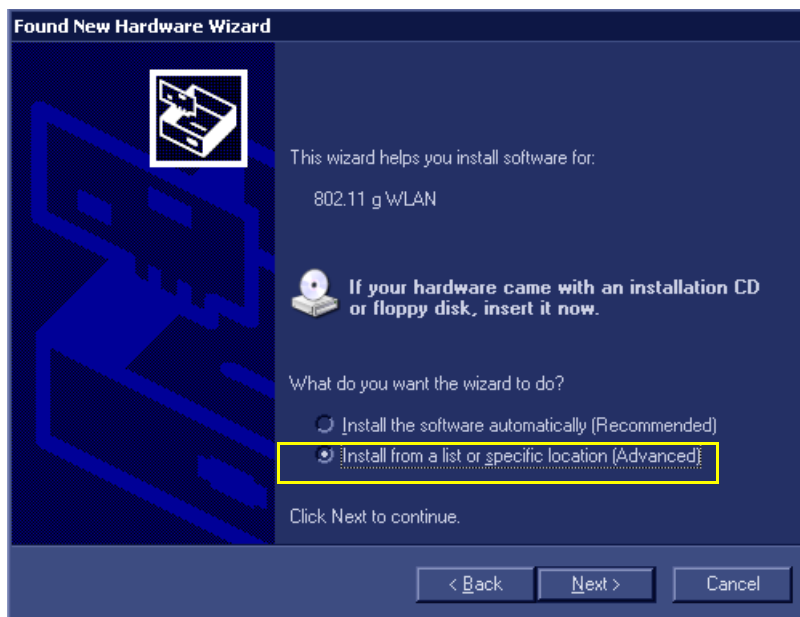

Figure 3-97 Install from a List or Specific Location
- 9.) Select "Install from a list or specific location (Advanced)" - see Figure 3-97 and click **Next**.